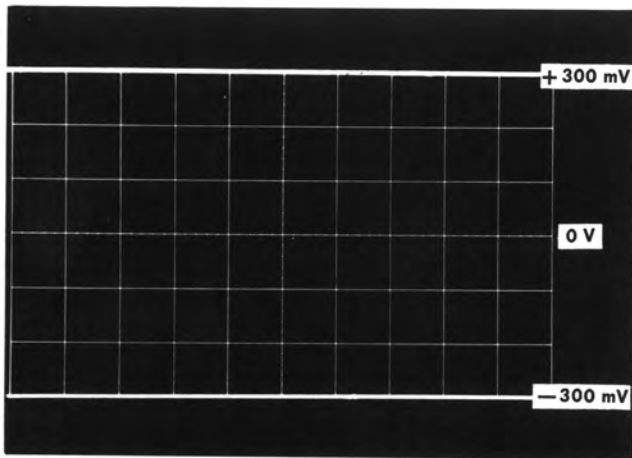

Fig. 6-7. Positioning range of OUTPUT DC LEVEL, with test oscilloscope set to 0.1 v/cm.
d. Rotate the OUTPUT DC LEVEL control throughout its range and check for a positioning range of + and -3 cm ( $\geq +$  and -300 mV). If necessary, readjust R93 so that the + and - ranges of the OUTPUT DC LEVEL control are equal. See Fig. 6-7. Return trace to the center graticule line with the OUTPUT DC LEVEL.